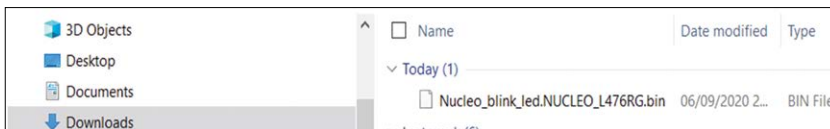

Figure 4.8: The compiled file in Download folder.
- The saved binary file is given the default name **Nucleo_blink_led_NUCLEO_L476RG.bin**. Click and drag this binary file in the Downloads folder (Figure 4.8) and drop it on the NODE_L476 device. You should see the communications LED on the Nucleo-L476RG board flashing red and green as the program is uploaded to your Nucleo board. Wait until the upload is complete which is indicated by the LED turning to steady green colour.